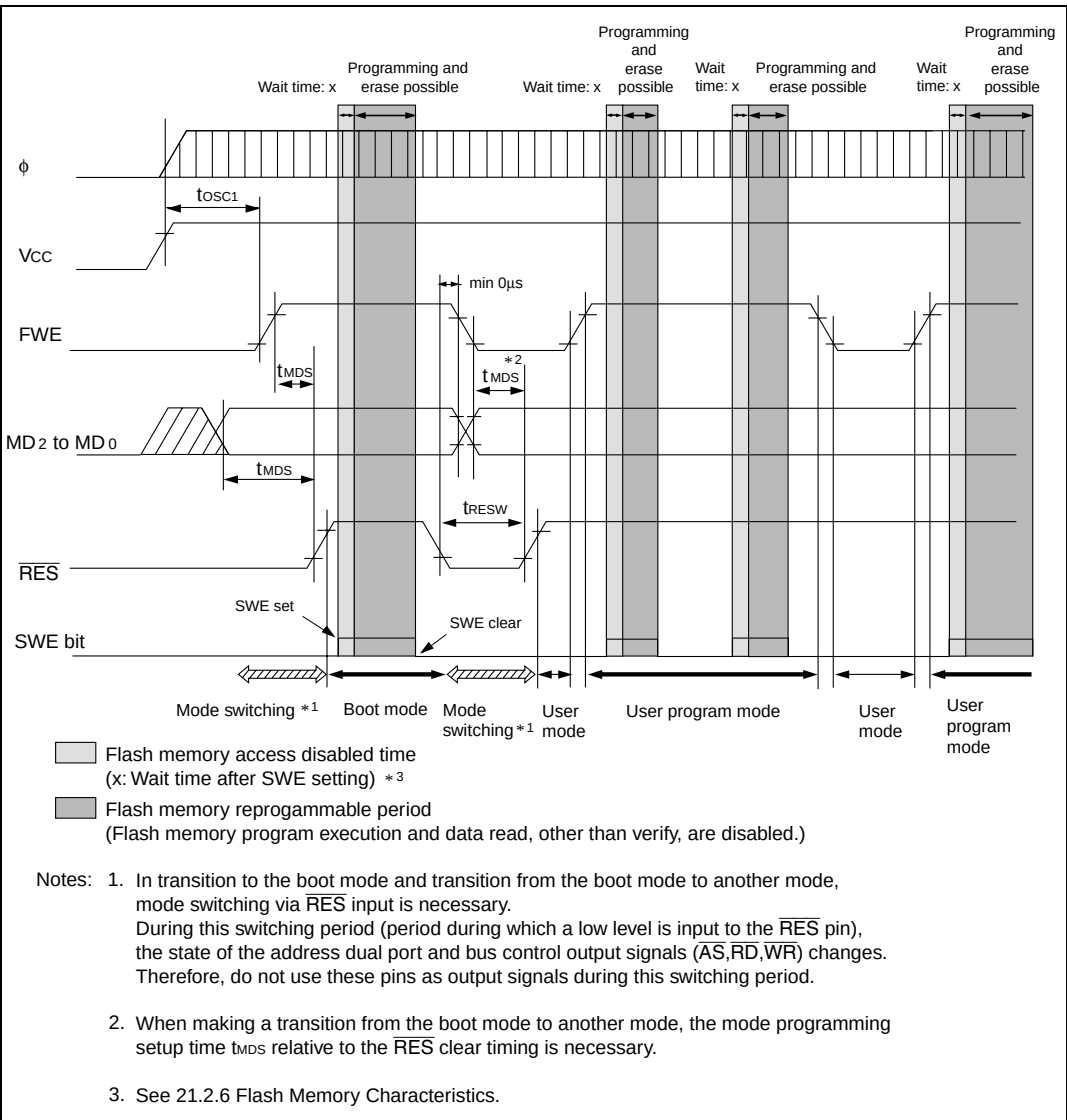

Figure 18.27 Mode Transition Timing
- Fill all the unused addresses with H'FF as shown in figure18.27 to make the ROM data size 128 kbytes for all H8/3067 Group chips, which incorporate different sizes of ROM. This applies to ordering through an EPROM and through electrical data transfer.